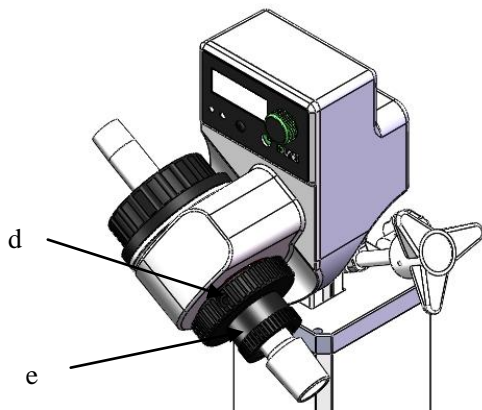
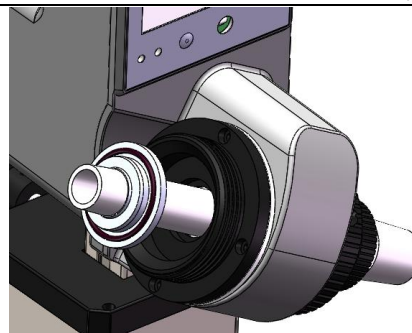

Fig. 13
Fig. 14
- Mount the seal ring (Fig. 13 and Fig. 14)